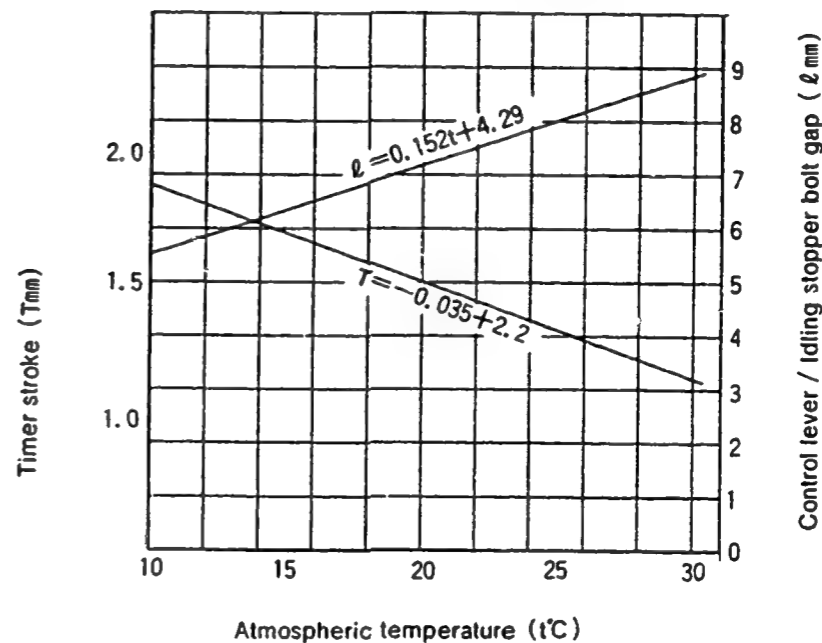

Fig. 2
- ① Using the graph ( Fig 2 ) , determine the Timer Stroke according to the atmospheric temperature at the time of adjustment.
- ② Adjust using the Timer Stroke adjusting bolt so that the Timer Stroke corresponds to the value determined in note ① above.
- ① Insert a block gauge of  $5.3 \pm 0.05$  mm thickness in the gap between the control lever and the idling stopper bolt.
- ② From Fig 2 determine the dimension of the gap between the idling lever pin and the control lever according to the atmospheric temperature at the time of adjustment.
- ③ Adjust using the fast idle adjusting screw so that the gap corresponds to the value determined in note 2) ② above.